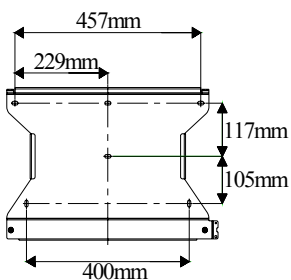

Figure 3.4-1
1. Use the wall-mounted bracket as a template and drill 6 holes on the wall, 10 mm in diameter and 80 mm deep. Refer to Figure 3.4-1.